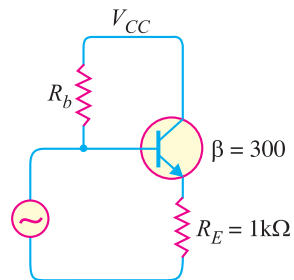

Fig. 13.31
7. In Fig. 13.31, if input and output impedances without feedback are $2\text{ M}\Omega$ and $500\ \Omega$ respectively, find their values after negative voltage feedback. **[302M Ω ; 1.6 Ω]**